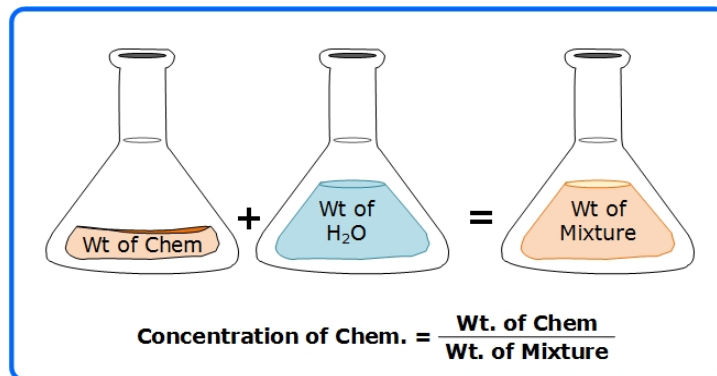

Figure 2: Chemical Concentration of Dry Chemical in Water
1. The percentage, or decimal fraction, of dry chemical, by weight, mixed with a liquid, and used as a chemical feedstock. (See Figure 2.) For example liquid alum is typically 48 to 50 percent (%) alum, depending on the supplier.